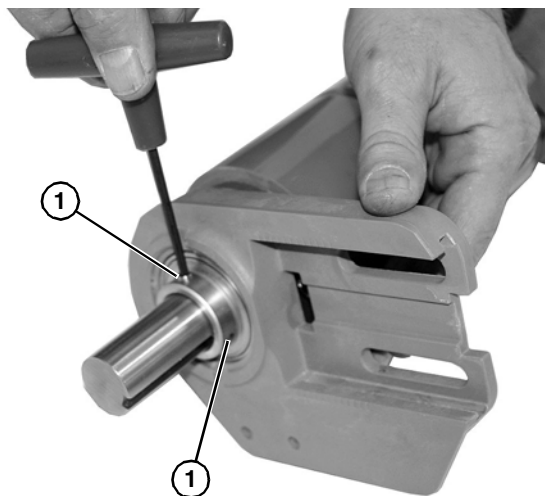

Figure 64
5. Loosen two set screws (Figure 64, item 1).